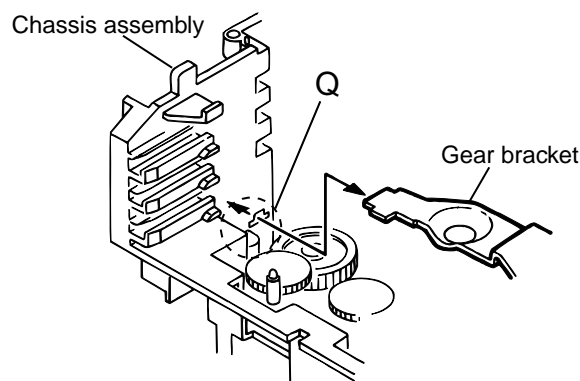

Fig.20
3. From the notch "Q section" on the chassis assembly fixing the edge of gear bracket, remove and take out the gear bracket (See Fig. 20).